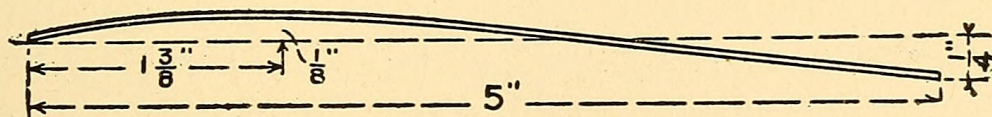

FIG. 404. — Curve the Ribs of the Planes like This.
**The Construction of the Planes** is clearly shown upon the working-drawings. Bend the ribs to the exact curve shown in Fig. 404, and be careful to get them all alike.